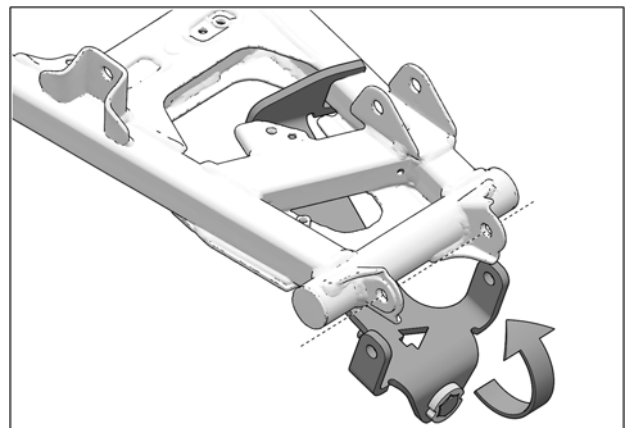

Fig. 8
7. Pivot front of anchor bracket upward and align bracket bolt holes with suspension arm bolt holes. See Fig. 8